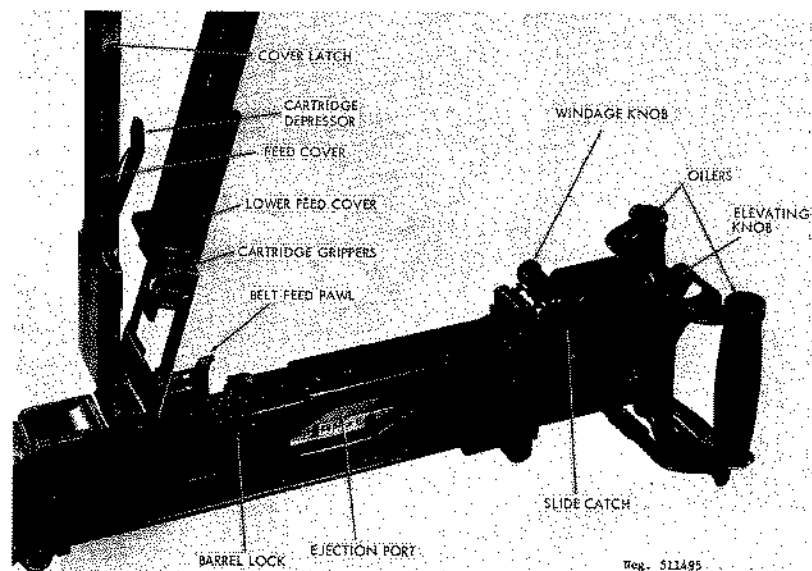

Figure 196. SG-43 receiver detail.
- c. Open the feed cover by pressing the cover catch (fig 196) forward and swinging the cover up. Place the belt in the feedway with the rim of the first cartridge between the cartridge feed slide grippers (fig 196); then close the cover. Pull the operating handle fully to the rear and push it fully forward; this handle is located between the grips on the SG43 and SG43M or on the right side of the SGM series guns.
d. Lift the rear sight leaf to a vertical position and adjust it for the desired range by pressing the slide catch (fig 196) and moving the slide along the leaf until the upper edge of the slide is aligned with the line below the number that corresponds to the range in hundreds of meters. Final fine elevation adjustment is made by the elevating knob, and lateral or windage adjustment can be made by the windage knob (fig 196). Use the range figures on the right side of the leaf when firing light bullets (Type L or LPS); use the left side of the leaf when firing silver-, white-, or yellow-tipped bullets. The front sight is adjustable for windage and elevation zero; loosen the nut on the front sight base, and move the sight from side to side, as necessary, to zero; then screw the post in or out, as necessary, for elevation zero.
f. To unload or clear the weapon, open the cover by pressing the cover catch forward. Lift the belt from the feed pawls (fig 196) and remove it. Lift the lower feed cover and remove the cartridge from the cartridge grippers. Inspect to insure that no cartridges remain in the gun. Pull the operating handle to the rear, and while holding it, raise the safety, press the trigger, and ease the operating handle forward. Close the covers and lower the rear sight.